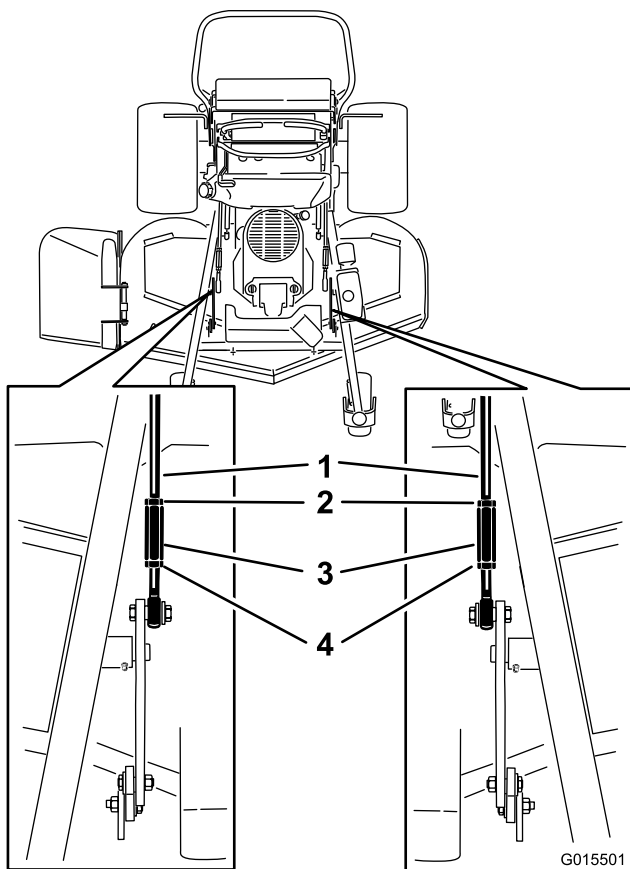

Figure 89
5. For 60 inch mower decks, tighten the lift links (Figure 89).
3. For 60 inch mower decks, loosen both the front and rear nuts and lift links on the adjustment rods (Figure 89).